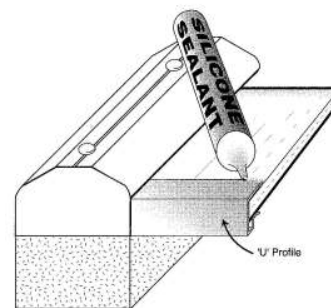

Fig.9
Step 11: Measure and accurately cut the aluminium U profile (ref. 252) to the exact length and fix over the anti-dust tape at the eaves end of the sheet between the end plates. A small bead of silicone sealant can be applied to the upper side of the sheet along the line where it meets the U profile and smooth to give a neat finish (Fig.9). Only use silicone sealant that is compatible with polycarbonate.
Step 12: Finally dress down the Butyl Flashing (ref. 200/20).